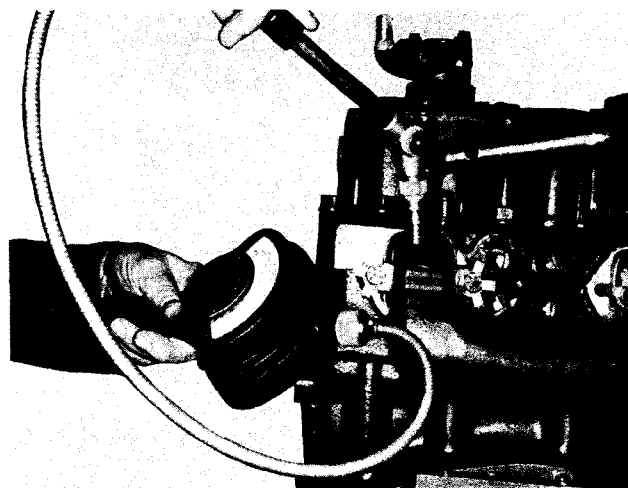

Fig. 8. Pyrometer in use
2. Hold the hot junction squarely and firmly on each exhaust leg. Fig. 8.